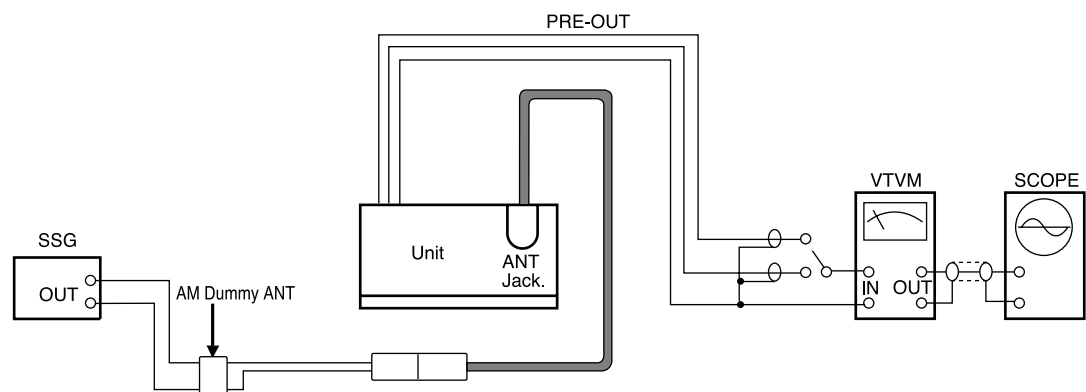

Figure 5.
- 2. Connect as shown in figure 5.